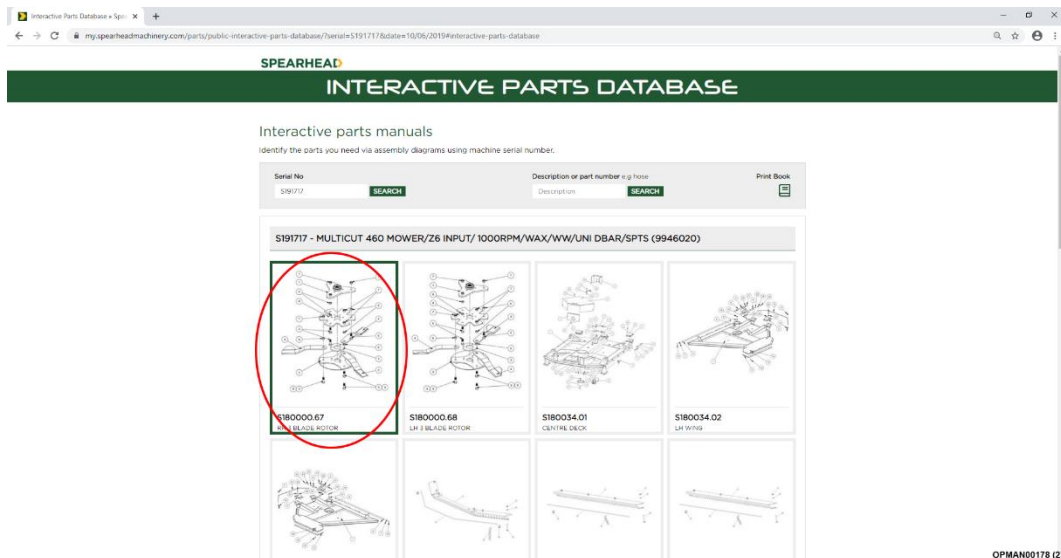

Figure 7.3 – Click On Assembly
7.2.1.3 After clicking on the serial number a full parts breakdown, specific to the machine serial number will appear showing the various parts and assemblies of the machine. Click on the specific assembly picture required; see Figure 7.3.